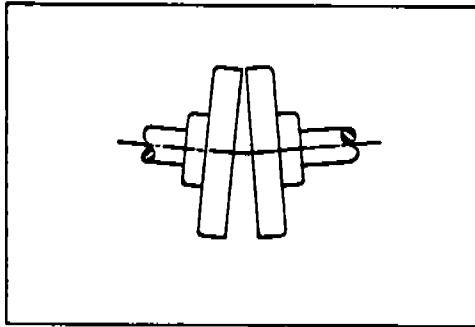
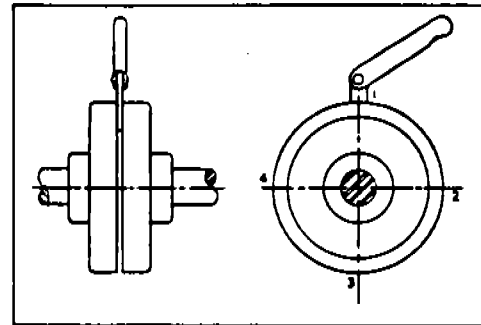

Figure 1
Figure 3
COUPLING ADJUSTMENT- When shipped from the factory the fluid coupling will be filled to the normal level as indicated by having the figure 1 cast on the coupling on the vertical centerline. The filler plug then will be at an angle of 36° to give coupling operation suitable for most applications. No further adjustment will be necessary unless special operating conditions exist.
1. Angular Misalignment (Figure 1)
Angular misalignment is illustrated in Figure 1 and should be corrected before attempting to correct for parallel misalignment. To correct proceed as shown in Figure 3, using a leaf gauge or taper gauge. By taking readings at points 1, 2, 3 and 4, it is easy to determine the amount of correction necessary. It is important to check that both shafts are in the closest axial location before taking readings. There will be no angular misalignment if the width of the gap is the same at all points.